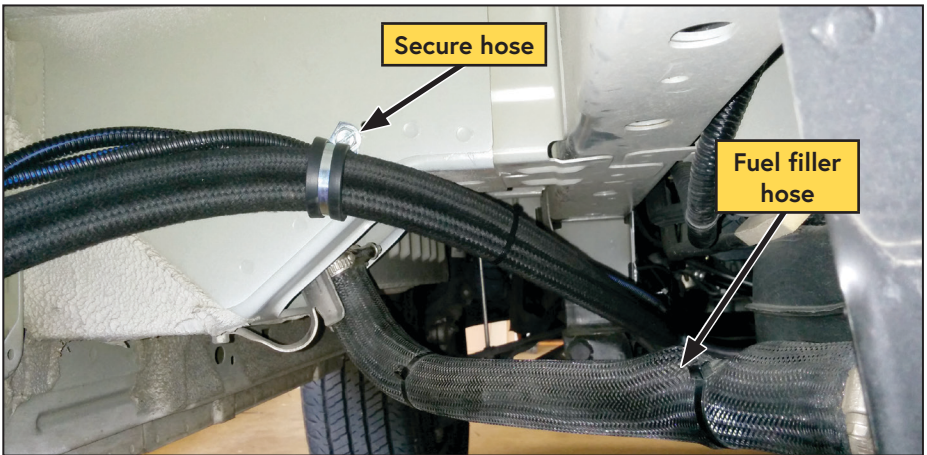

Figure 43 — Hose routing above fuel filler hose
- Route the hoses above the fuel filler hose and toward the rear of the fuel filler housing (Figure 42, Figure 43).
- Secure the hose using the supplied P-clip and 5/16 in x 3/4 in sheet metal screw, in the location shown (Figure 43).